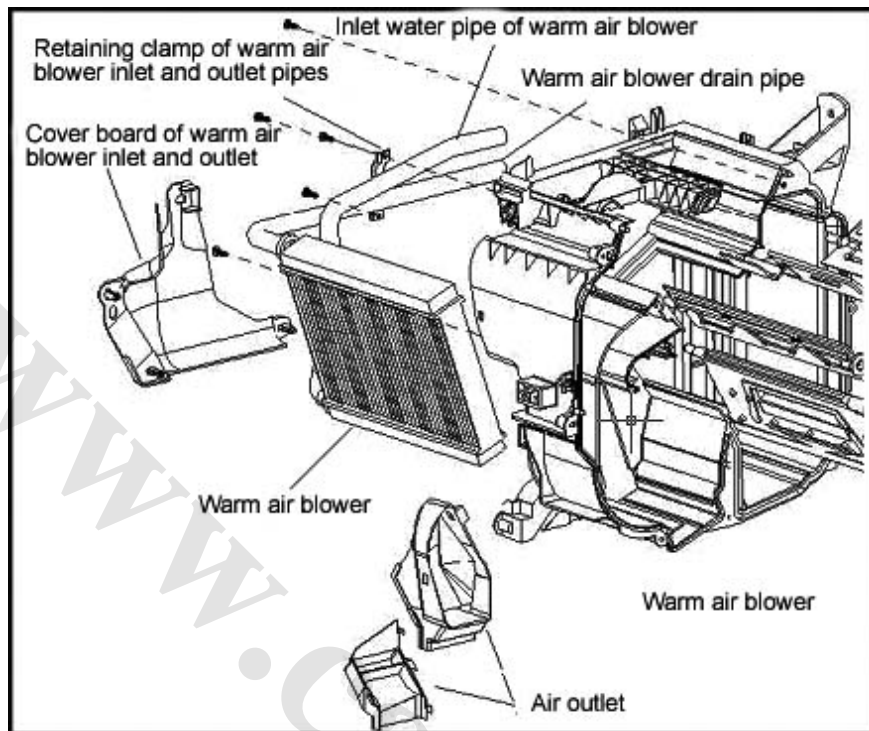

Figure 6-24
1) Disassemble the inlet and outlet cover board of heater and lower air outlet of the CAB, as shown in Figure 6-24.